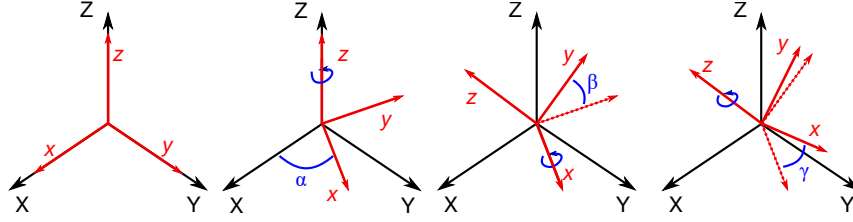

Figure 7-3. A rotation represented by Euler angles (α, β, γ) using $\mathbf{Z}(\alpha)\mathbf{X}(\beta)\mathbf{Z}(\gamma)$ intrinsic rotations.
2. **Local coordinate systems.** It is possible to have the ICFD parts or ICFD_PART_VOLs rotate around the global reference frame but also to define and use a local reference frame by defining its point of origin and two of its vectors $\mathbf{v}_1 = (X1, Y1, Z1)$ and $\mathbf{v}_2 = (X2, Y2, Z2)$ (note that \mathbf{v}_1 and \mathbf{v}_2 should be orthogonal). The third vector is, then, in the direction of $\mathbf{v}_1 \times \mathbf{v}_2$. See Figure 7-3.